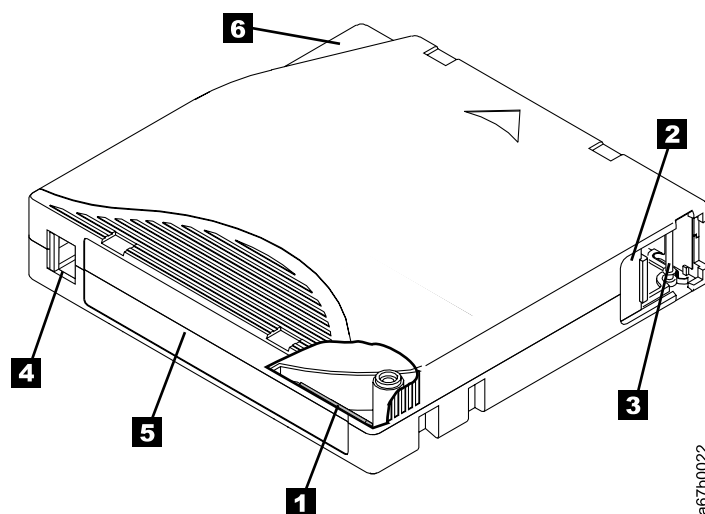

Figure 36. The IBM TotalStorage LTO Ultrium 200 GB Data Cartridge
Figure 36 shows the IBM TotalStorage LTO Ultrium 200 GB Data Cartridge and its components.
Both generations of the IBM LTO Ultrium Data Cartridges include a Linear Tape-Open Cartridge Memory (LTO-CM) chip ( **1** in Figure 36 on page 193), that contains information about the cartridge and the tape (such as the name of the manufacturer that created the tape), as well as statistical information about the cartridge's use. The LTO-CM enhances the efficiency of the cartridge. For example, the LTO-CM stores the end-of-data location which, when you next insert a cartridge and issue the Write command, enables the drive to quickly locate the recording area and begin recording. The LTO-CM also aids in determining the reliability of the cartridge by storing data about its age, how many times it has been loaded, and how many errors it has accumulated. Whenever you unload a tape cartridge, the tape drive writes any pertinent information to the cartridge memory. The storage capacity of the LTO-CM is 4096 bytes.
When attaching a bar code label to a tape cartridge, place the label only in the recessed label area (see **4** in Figure 36 on page 193). A label that extends outside of the recessed area can cause loading problems in the drive or the library.
- Position the label within the recessed label area (see **5** in Figure 36 on page 193).